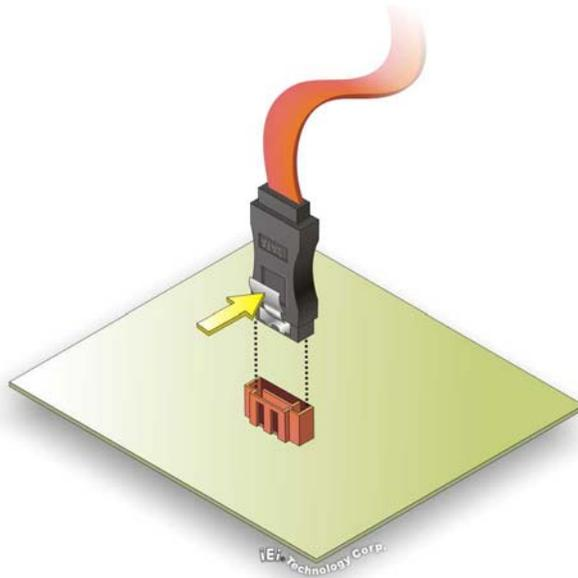

Figure 4-13: SATA Drive Cable Connection
Step 2: **Insert the cable connector.** Press the clip on the connector at the end of the SATA cable and insert the cable connector into the on-board SATA drive connector. See **Figure 4-13**.